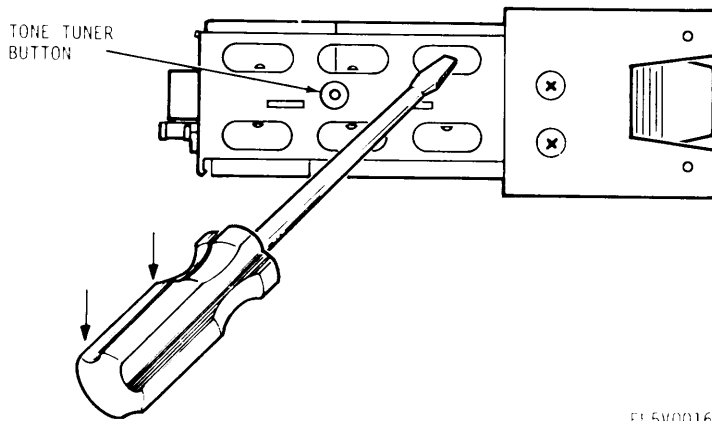

Figure 3-10. Module removal.
(1) Hold radio in left hand with control panel toward palm, thumb over converter module and fingers over radio on opposite side.
(2) Inset corner of screwdriver tip into forward (panel end) pry slot on converter module. Extend left thumb over converter module to stop module travel and pry up this end of the module (see fig. 3-10). Move screwdriver to other slot on the converter module and pry up. Remove module from radio with fingers.
(3) To insert converter module, align module pins with frame sockets and gently press module into place, *b. I-f/A-f Module.*